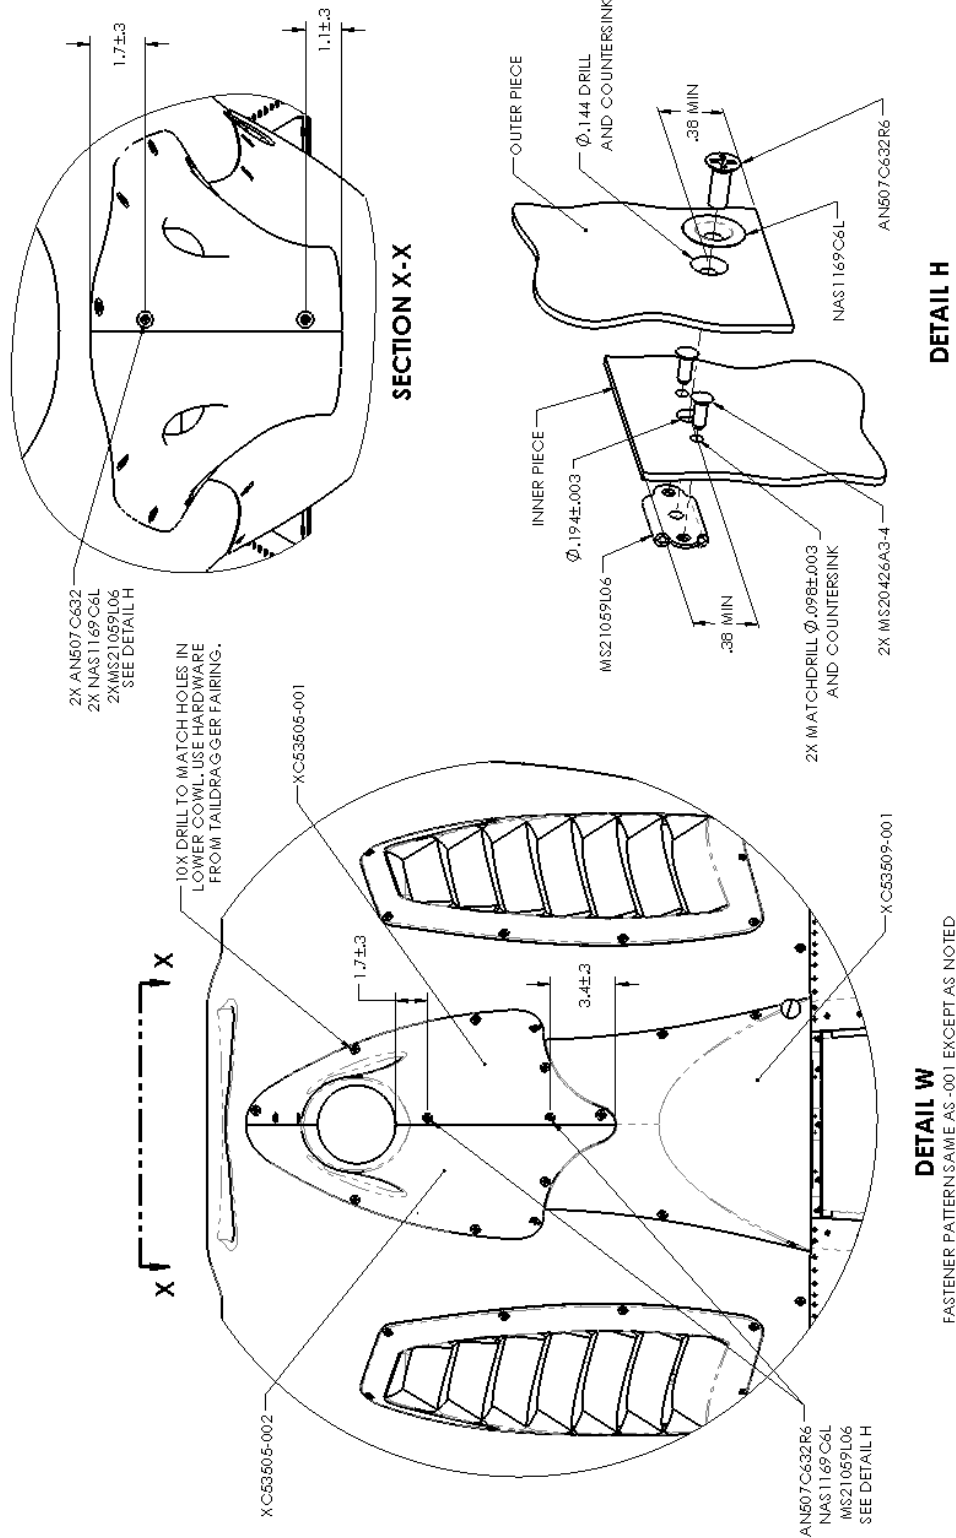

Figure 31 – New Lower Cowl Subassembly
- 43. Install new front lower cowl fairings (XC53505-001/-002). Lower cowl and lower cowl access panel (XC53509-001) already include several nutplates for mounting the new fairings. Drill holes in XC53505-001 & -002 as required to match nutplate locations. Use hardware from removed fairing XC53506-001 for attaching new fairings to the lower cowl. Install additional hardware for securing XC53505-001 & -002 to each other in accordance with Figure 31.